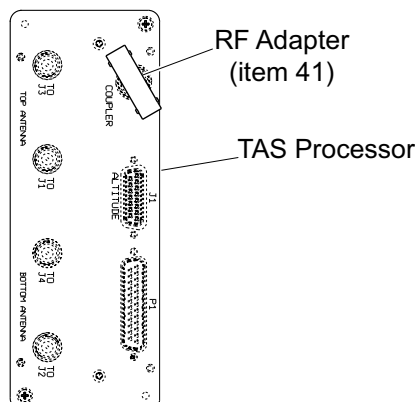

Figure 9.
9.7. Connect the RF adapter (item 41) to the coupler receptacle on the TAS processor. Refer to figure 9.